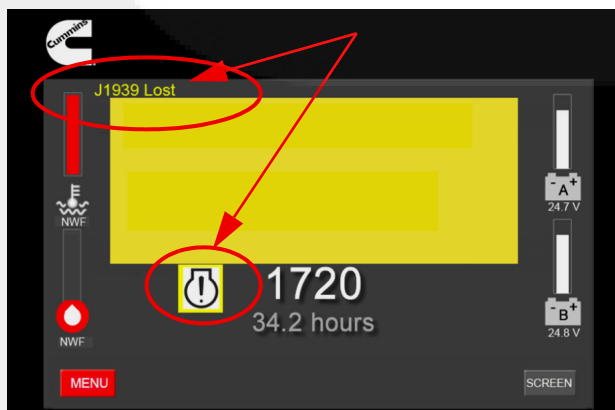

Figure 2-7 Loss of J1939 communications
- **Communications have been lost with the ECM**. The FPDP communicates with electronically-controlled engines via J1939. As shown in Figure 2-7, if communications are lost, "J1939 Lost" will appear on the top left of the screen. The warning lamp will also illuminate and the text "NWF" (which stands for "Network Failure") will replace all digital J1939 values, except the tachometer, which will revert to using a mechanical speed sensor for engine speed detection.